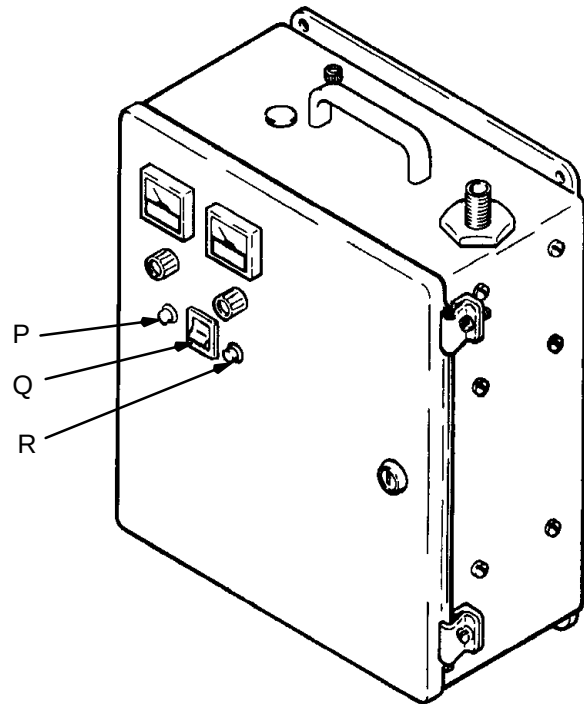

Fig 7
1. Turn on the line power switch (Q). When the white light (P) glows, you can begin spraying. See Fig 7.
2. When the gun is triggered, the green light (R) glows, indicating that the spraying voltage is on.
3. Whenever you stop spraying, turn off the line power switch (Q).